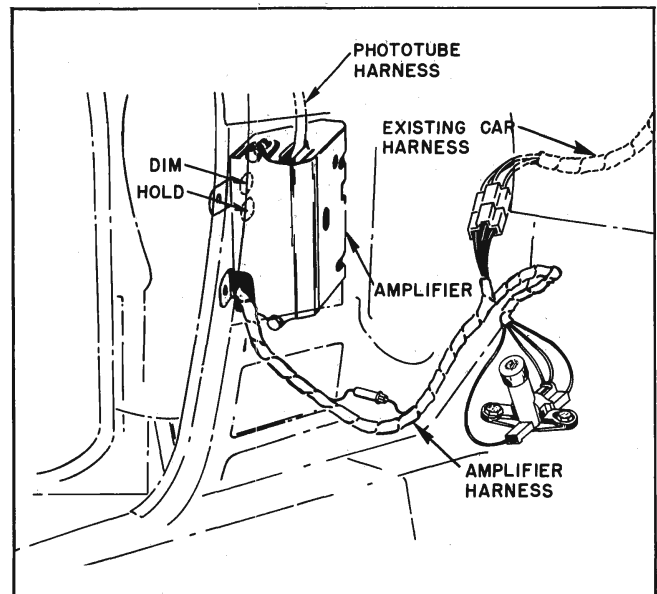

Fig. 12-17 Amplifier Harness
1. Hold and dim sensitivity controls are slotted for screwdriver adjustment and are located at the side of the amplifier unit. When installed on the car they are available through the left front door post after removal of the hinge cover and the dust and moisture protective plug (Fig. 12-17).
2. a. Check wire color coding of three-way connector on foot switch (Fig. 12-17).
- b. Ground white wire to amplifier harness (Fig. 12-17).